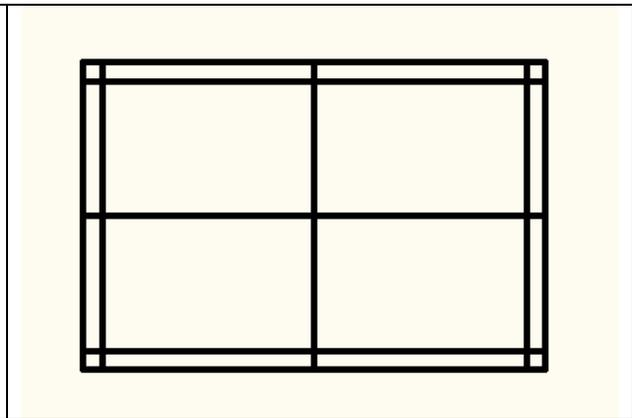

Figure 2.11 – Finishing the 0.25 offsets
2.10), pick the direction to offset the new line, which is below the top horizontal line. A new line will appear 0.25 below the top line. Continue to select the outside perimeter lines in a clockwise or counter-clockwise direction, first picking the existing line and then inside the perimeter to add the new 0.25 offset line (Figure 2.11). Hit ENTER to leave the Offset command after placing the four new lines.